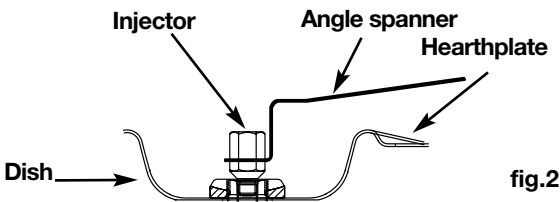

fig.2
- Using the spanner supplied, unscrew the injectors at the bottom of each dish and remove them (fig. 2).